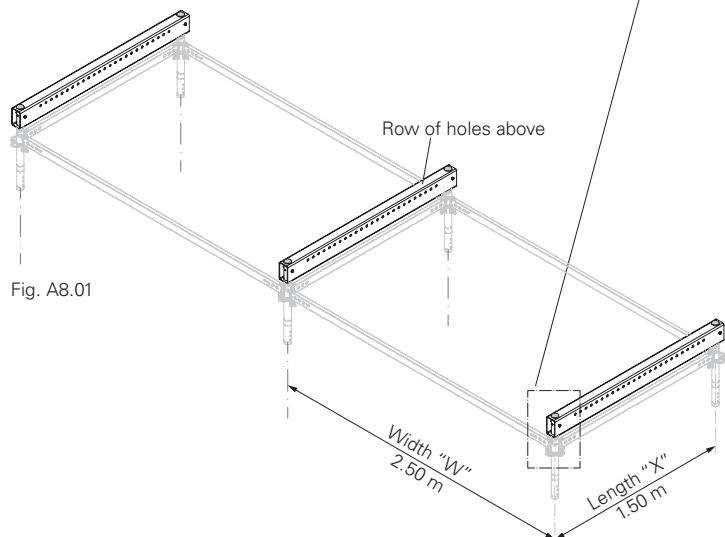

Fig. A8.01
- marries up with that of the load-bearing substructure, variant 1 (Fig. A8.01), or
1. Fit the ledger (**28**) onto the ends of the standard – 3x. Ensure that the row of holes is at the top. (Fig. A8.01 + A8.01a)